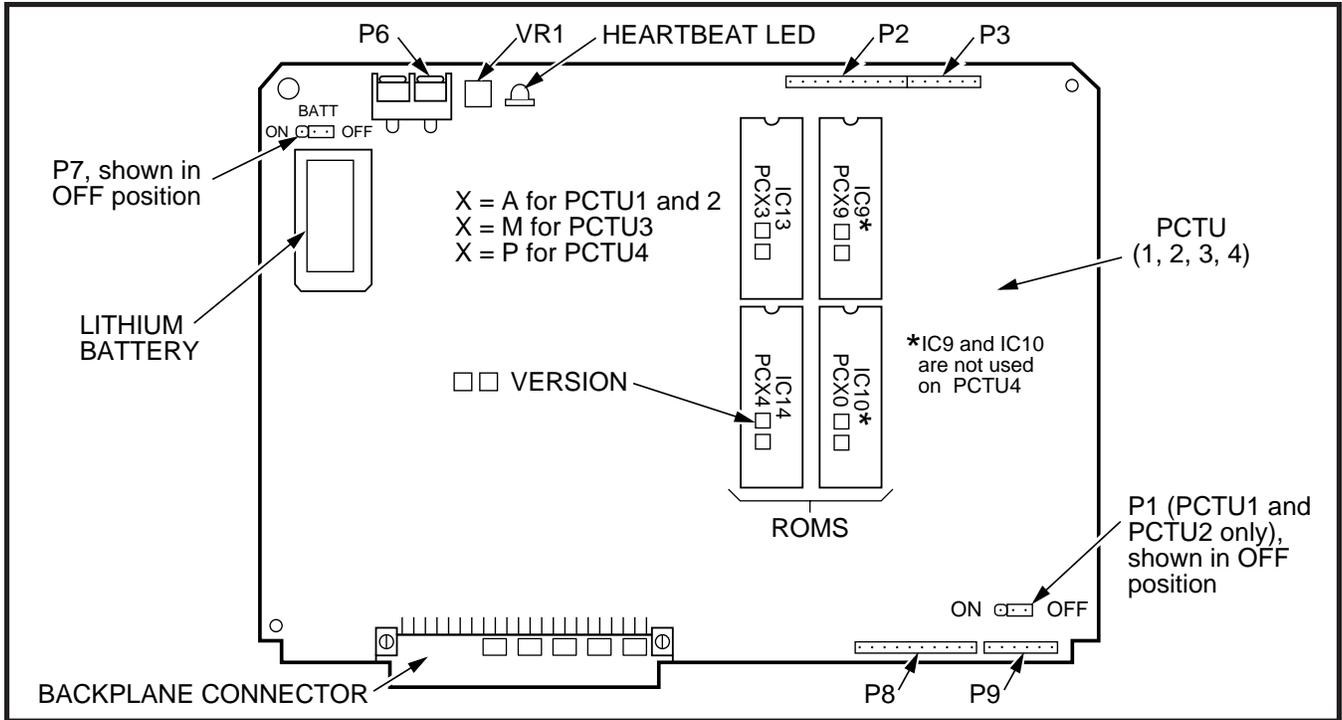

FIGURE 6-1
3.05 PCTU controls, indicators, and interface connectors are shown in Figures 6-1 and 6-2 and described in Table 6-A.